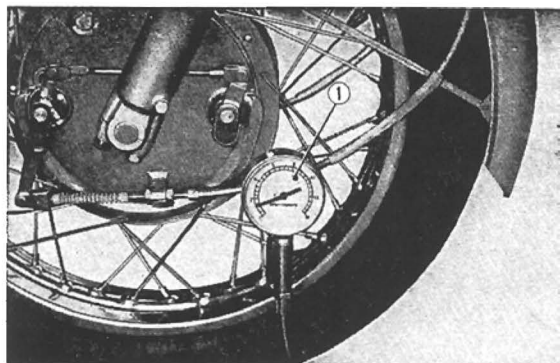

Fig. 6.2 Rated compression
① Thickness gauge ② Cam follower shaft
③ Screw driver
(3) To measure the specified compression, measurement should be performed with the engine warm.
d. The rated compression is 13 kg/sq.cm. (185 p.s.i.) (Fig. 6.2)